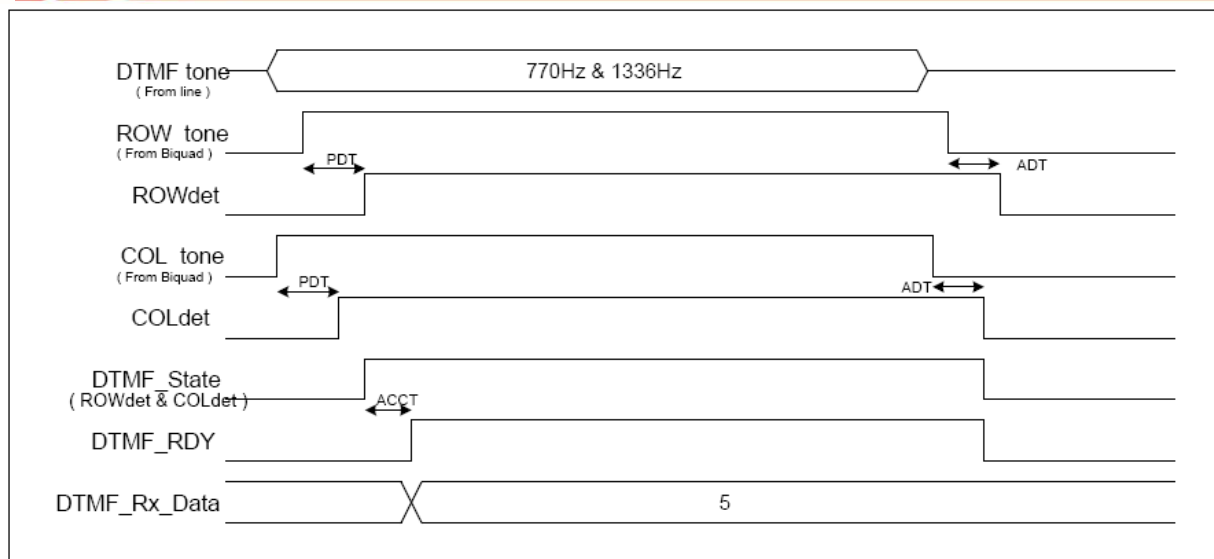

Figure 3-18 DTMF Detector Acquisition timing
- (1) Press the “GO” (B) button to load the default registers and the new registers will update to the panel immediately. Then the EVB will decode the default digits automatically and display them in (A).
- (2) Press the “Clear” (C) button to clear the decoded digits in (A) if needed; send more digits from other telephone through telephone line. And the decoded digits are also shown in (A).
- (3) If the decoded digits are not correct, tune the timing (D) (E) (F) according to Figure 3-18, tune the threshold (G), DTMF_TC (H) and Freq Deviation(I). And then Press “Write CFG” (J) button to change the conditions. Press “Read CFG” (K) to confirm the conditions if needed.
- (4) Send the digits again.
- (5) If the decoded digits are still not correct, repeat steps (3) & (4).
According to Figure 3-18, users can also monitor the immediate states: DTMF_RDY(L), DTMF_STATE(M) and DTMF_RX_DATA(N).